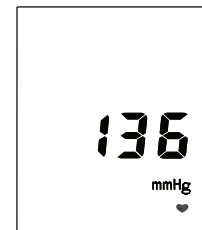

Fig. 3
3. The pump stop inflating and pressure begins to decrease gradually, during which the user's blood pressure and pulse will be calculated as Fig.3;